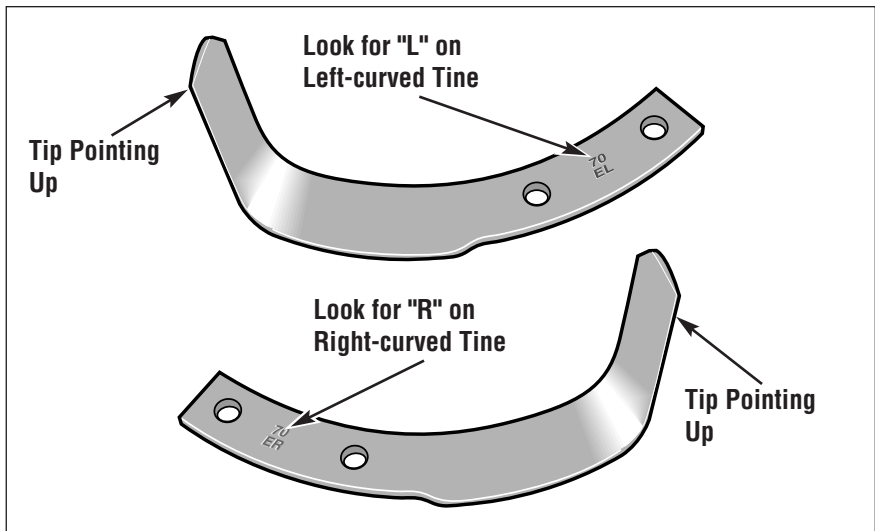

Figure 1: Look for "L" or "R" stamped on the tines.
A. The letters and numbers stamped on the side of each tine are factory code marks which contain either an "L" (on left-curved tines) or an "R" (on right-curved tines). See Figure 1.